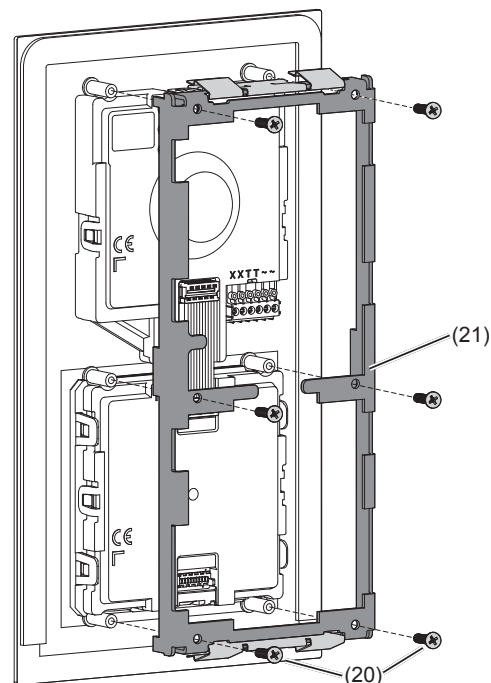

Figure 19: Dismantling module mounting
- Pull off connection terminal block (13) on the video insert.
- Loosen screws (20) of the module mounting at the back (21) using a screwdriver and remove the module mounting (Figure 19).